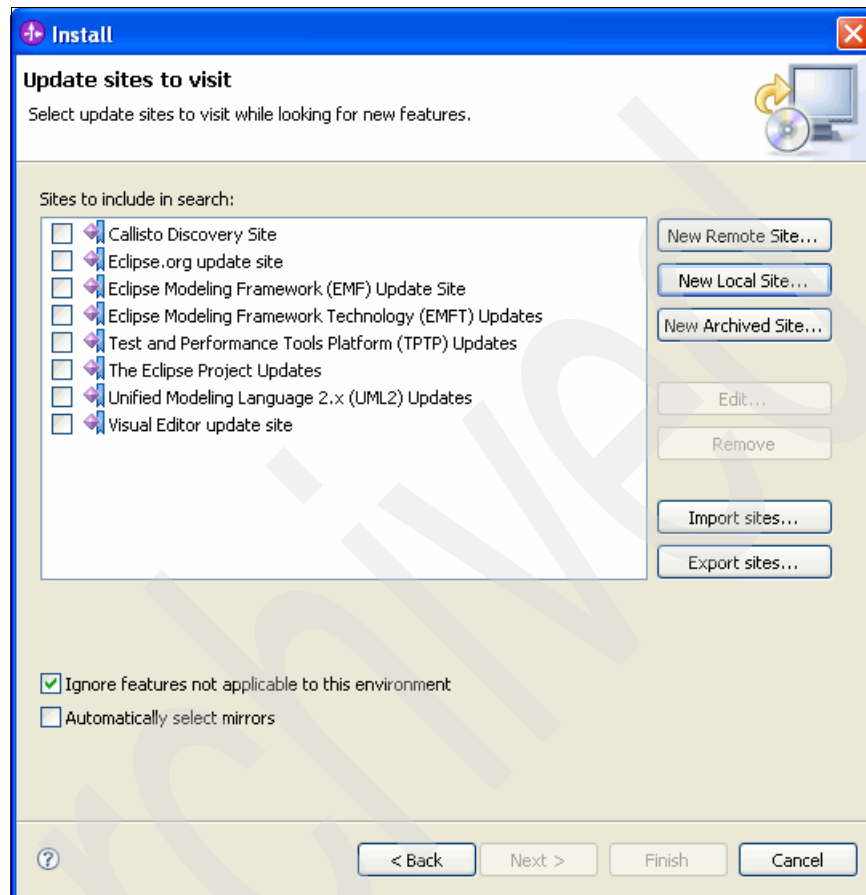

Figure 8-35 Install window
7. In the Install – Update sites to visit window (Figure 8-35), click **New Local Site....**